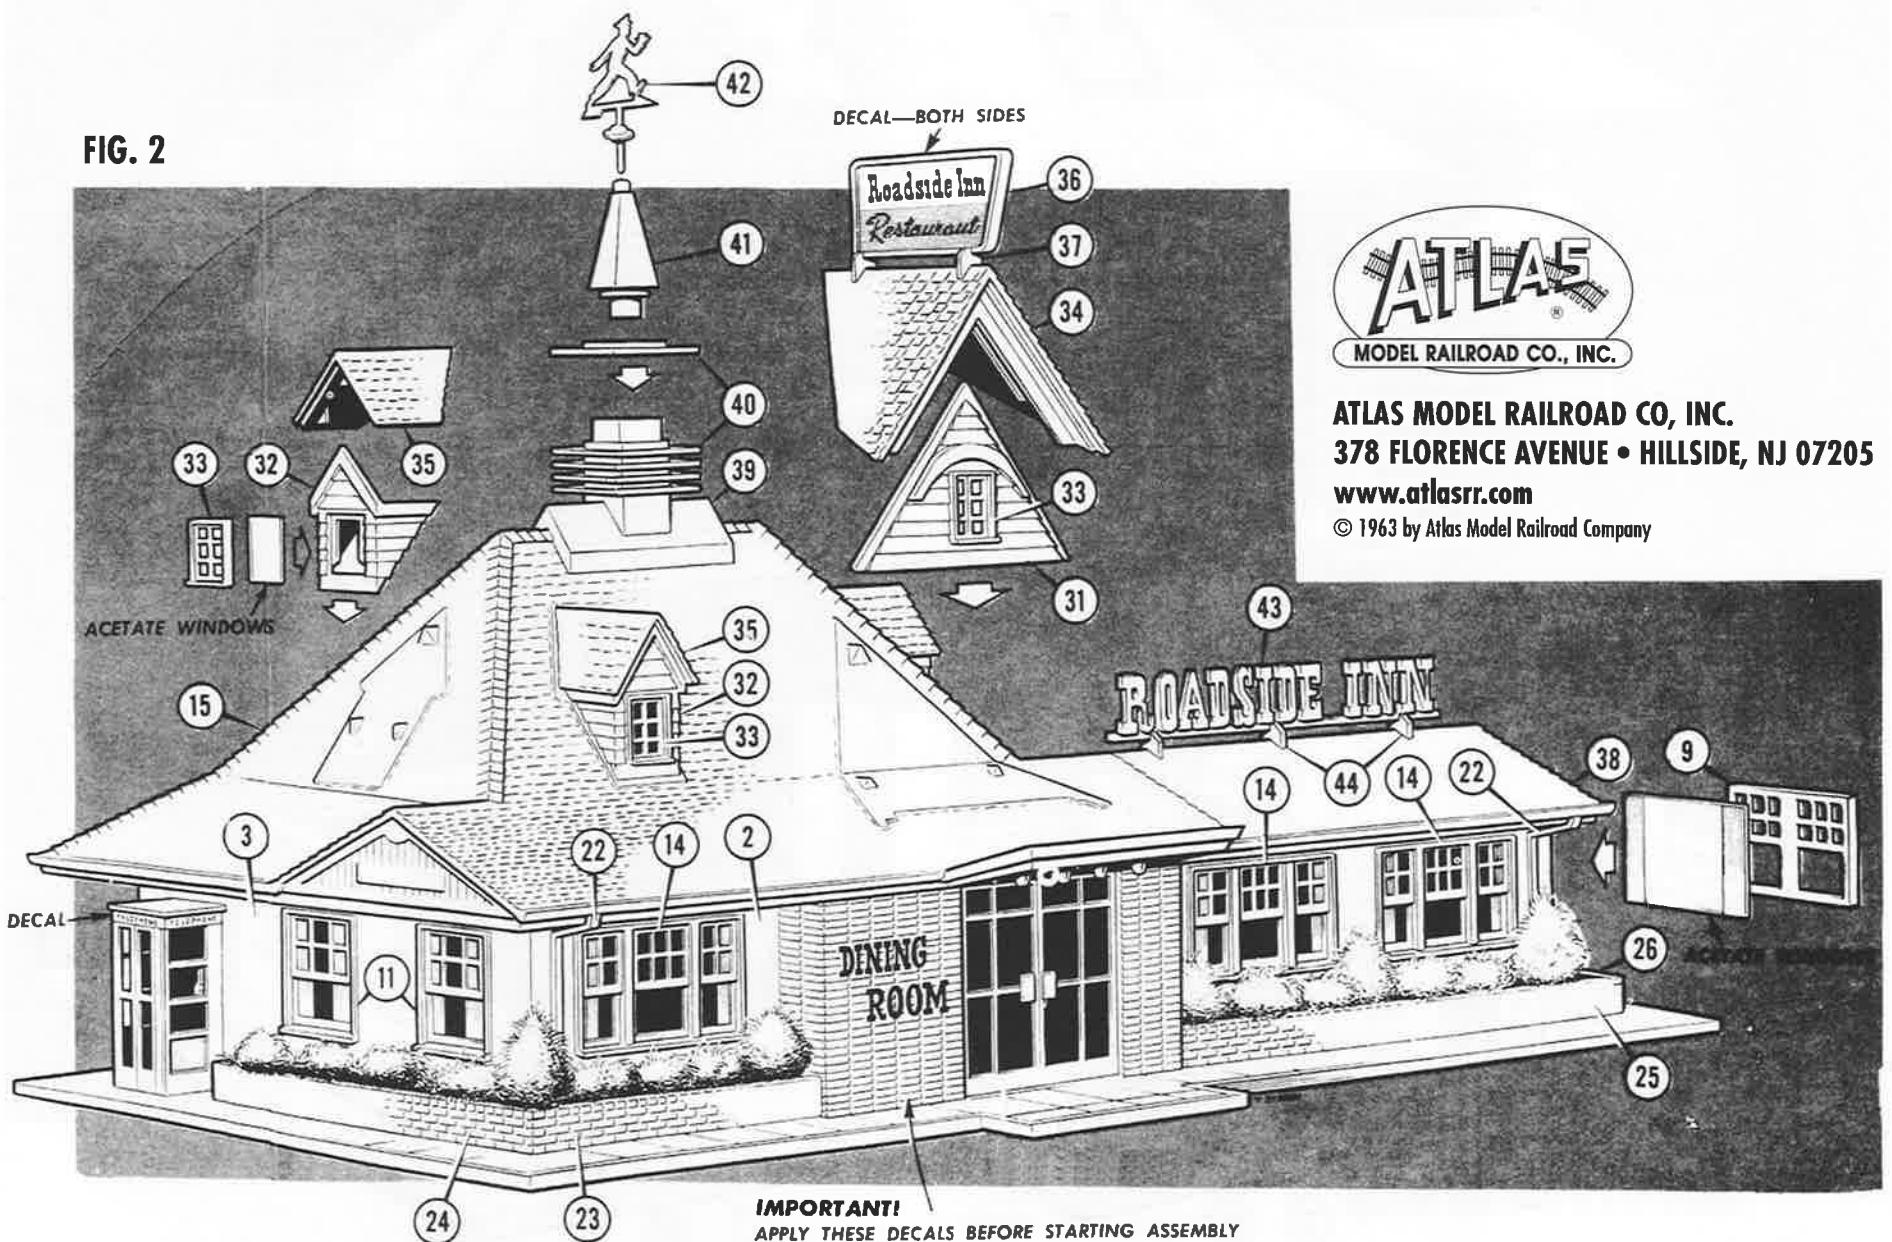

FIG. 2
20. Apply the "TELEPHONE" decal as shown in **FIG. 2**.
22. Install two **DOWNSPOUTS 22** on the front of the building as shown in **FIG. 2** and the remaining two **DOWNSPOUTS** at the rear as shown in **FIG. 1**. Apply cement to their tabs from the inside.
30. Cement two **PEDESTALS 37** to **SIGNBOARD 36**. When dry, cement the assembly to the **MAIN GABLE ROOF 34** as shown in **FIG. 2**.
33. Cement three **PEDESTALS 44** to **SIGN 43**, locating them as shown in **FIG. 2**, then cement the assembly to **COUNTER ROOM ROOF**.